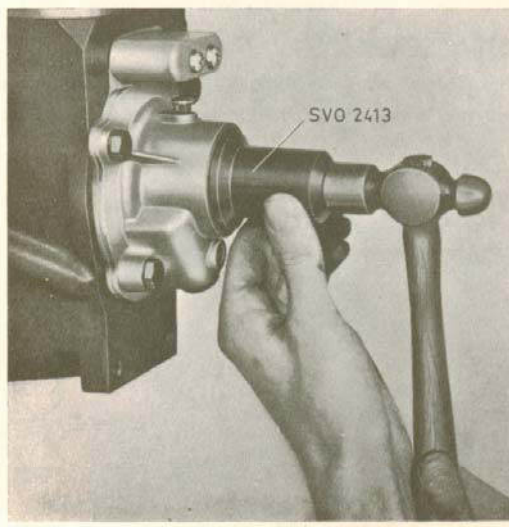

Fig. 3-14. Fitting sealing ring
3. Pull out the old sealing ring (18) with puller SVO 4030, Fig. 1-13. Fit the new sealing ring with the help of drift SVO 2413, Fig. 3-14.